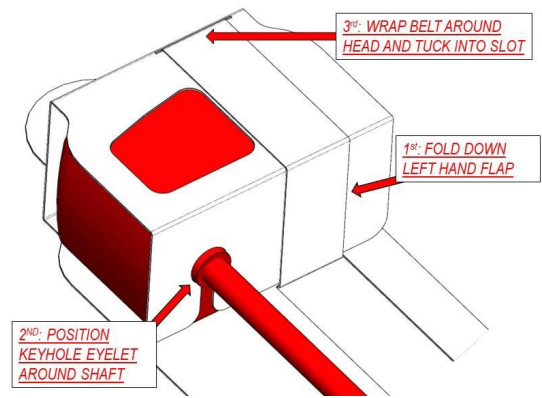

Figure 4: Left Side Robotic Instrument Head Assembly
- Tuck Robotic Instrument Head into Left Side Folds of Robotic Arm Instrument Card (figure 4).